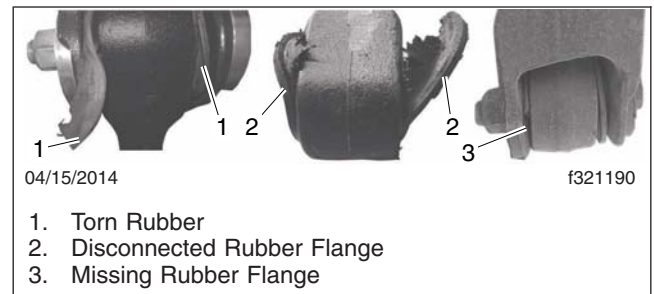

Fig. 7, Inspecting for Torn, Disconnected, or Missing Rubber Flange
- If the pivot bushing shows signs of torn, separated, or disconnected rubber, as shown in **Fig. 7**, it could be the result of axle misalignment. If this condition is evident, a pivot bushing physical inspection is required.
- If the outer rubber flange(s) is missing, or there are shards of rubber visible, as shown in **Fig. 7**, it could be the result of axle misalignment. If this condition is evident, the pivot bushing must be replaced.